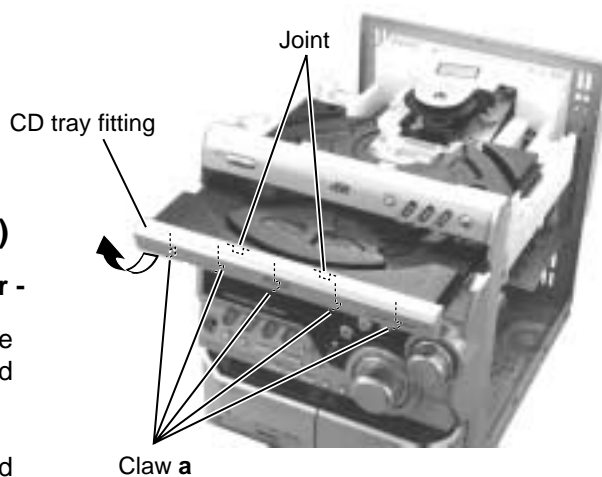

Fig.5
**■Removing the CD Tray fitting (2)**
**(See Fig. 5 to 7)**